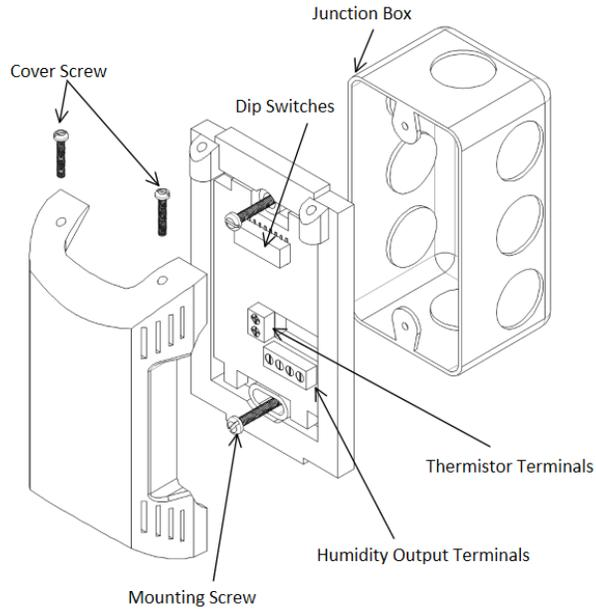
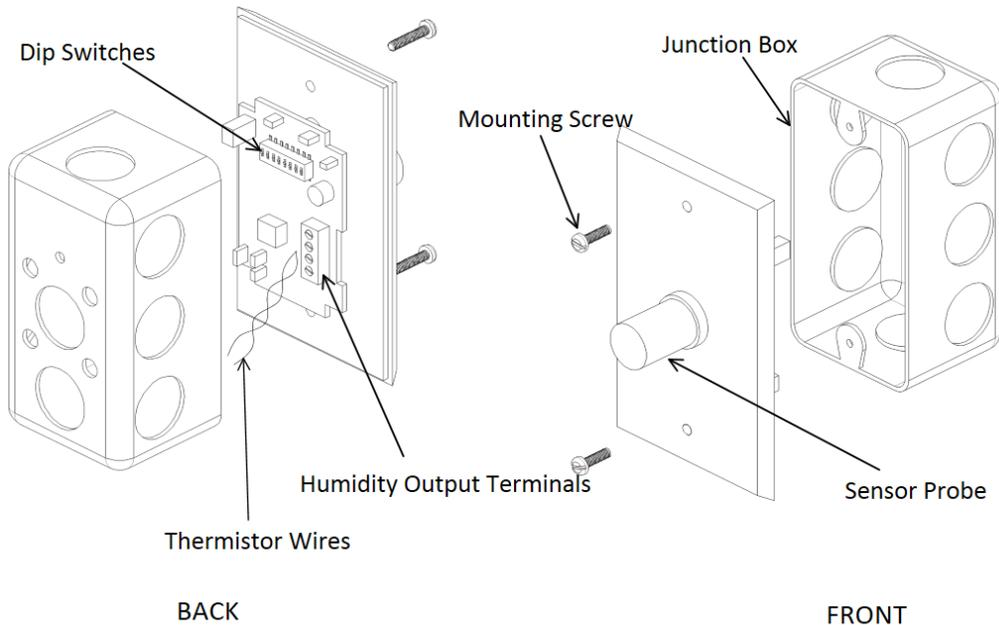
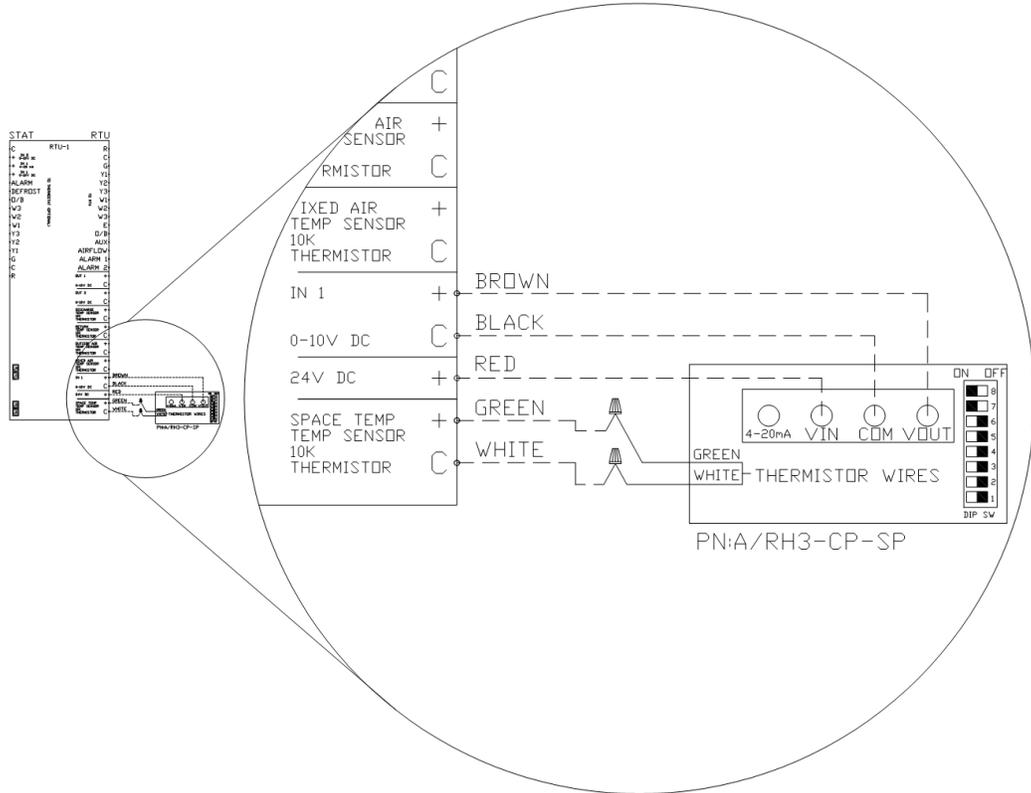

Figure 12. Temperature and Humidity Sensor Detail (Plastic Wall Mount)
Figure 13. Temperature and Humidity Sensor Detail (Stainless Steel Wall Mount Housing)
Figure 14. Space Mounted Temp/Humidity Sensor Wiring
Figure 12 shows an install detail for a wall-mounted temperature and humidity sensor with a plastic housing (PN: A/RH3-CP-R2). **Figure 13** shows an install detail for a wall-mounted temperature and humidity sensor with stainless steel housing (PN: A/RH3-CP-SP). **Figure 14** shows a wiring schematic of a space temperature and humidity sensor that is installed in the space and connected to the “RTU” Input 1 on the RTULink. Standard 18-5 thermostat wire should be used for sensor wiring.
The sensor has a bank of eight dip switches that control the range of the output voltage of the humidity sensor. Switches seven (7) and eight (8) need to be turned ON, and the rest should remain OFF. These dip switches can be seen in the sensor detail in **Figure 14**.
Once the sensor is wired to an input, enter the configuration menu of the RTULink via the onboard HMI and configure the corresponding input for the humidity sensor that was installed. In the **Figure 14** example, “RTU IN 1” would be configured for “SPACE RH”.